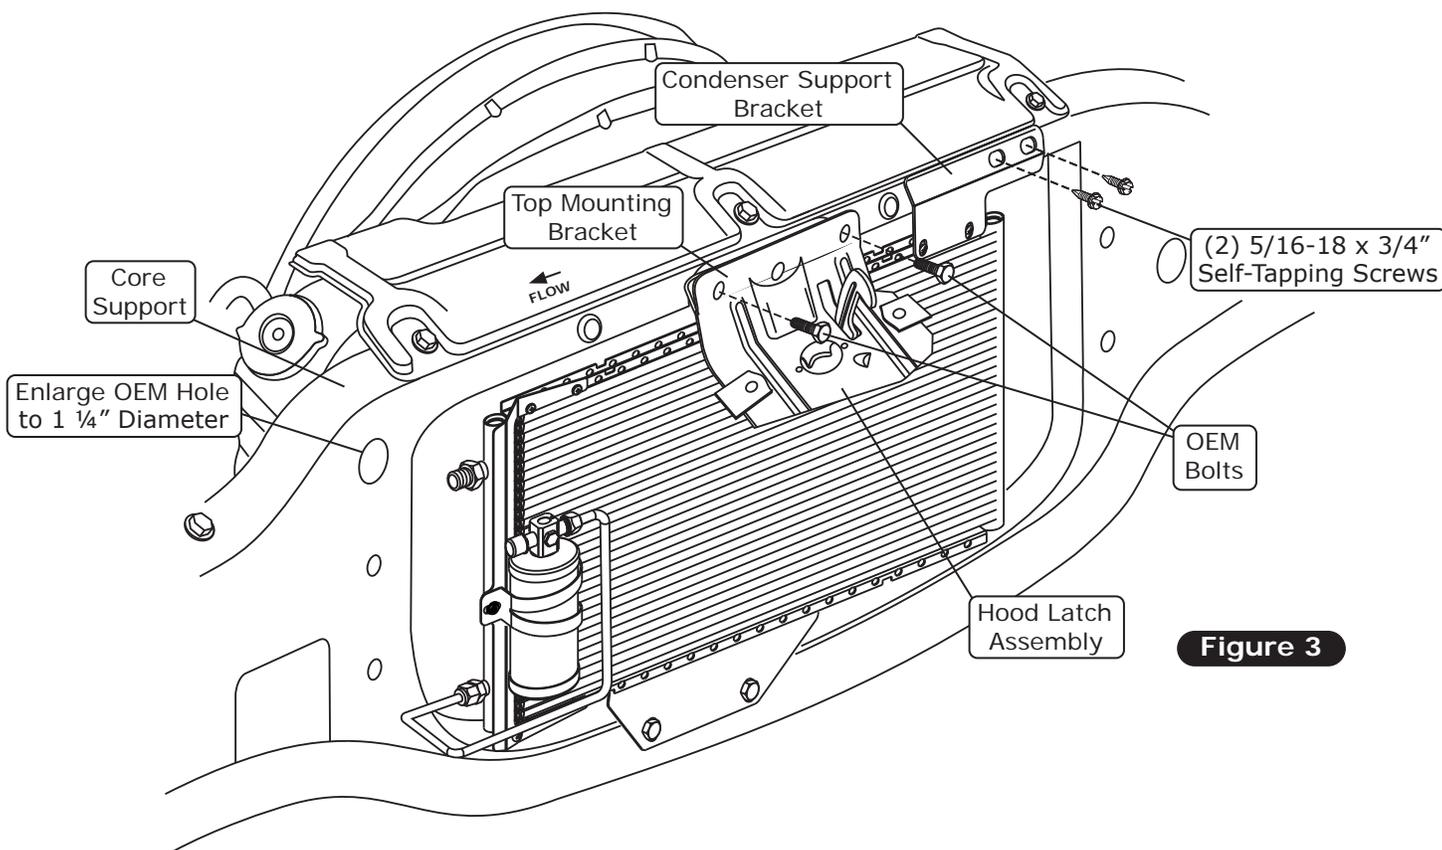

Figure 3
5. Reinstall the hood latch assembly using the OEM bolts. Install the OEM bolts through the hood latch assembly, top mounting bracket and core support (See Figure 3, below).
6. Install the condenser support bracket to the core support using (2) 5/16-18 x 3/4" self-tapping screws (See Figure 3, below).
7. Enlarge the passenger side OEM hole on the core support to 1 1/4" diameter (See Figure 3, below).